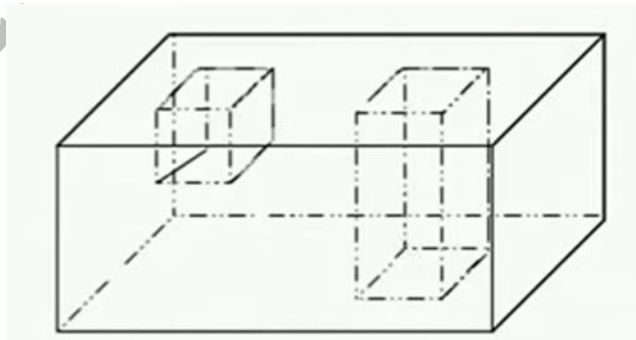

Fig. 1
- b) Verify Euler equation for solid shown in Fig. 1. **06**